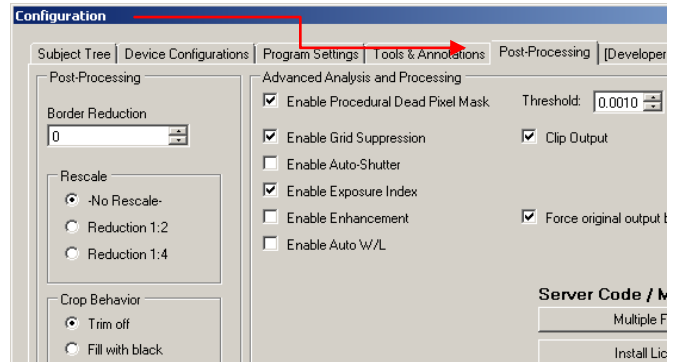

Figure 2
- b. Select the *Post-Processing* tab from the configuration screen. *Figure 2*